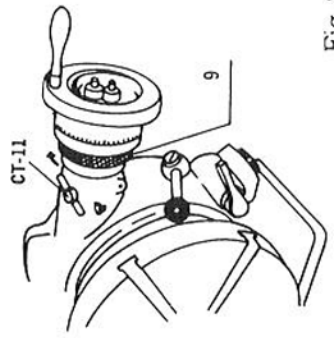

Fig. 2
1. First, release the worm gear from engagement. Loosen the metal clamp handle CT-11 first and rotate the switch metal 9 clockwise until it hits the stopper so that the worm gear completely disengages from the worm wheel. In this case, the handle must be very tight while locating in neutral, to protect the worm gear from damage. The chuck can be rotated by hand in neutral. (Fig. 2)